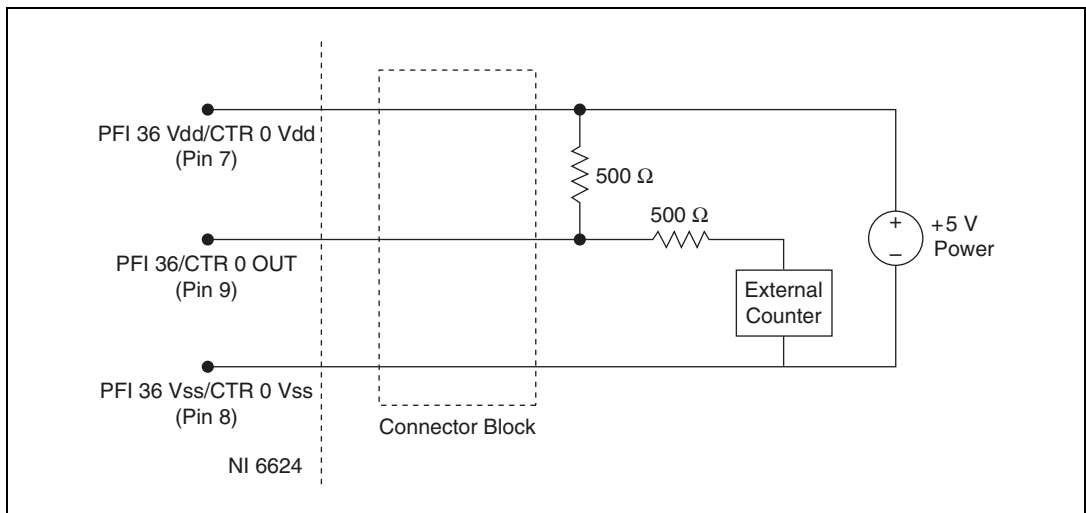

Figure 3. Calibration Connections
2. Wire the +5 V power source to the connector block. Refer to Figure 3 for the calibration connections.
3. Wire a 500 Ω resistor between the connector block terminals that are connected to the PFI 36 Vdd/CTR 0 Vdd pin (pin 7) and PFI 36/CTR 0 OUT pin (pin 9) on the NI 6624. Wire another 500 Ω resistor to the connector block terminal that is connected to the PFI 36/CTR 0 OUT pin (pin 9) on the NI 6624, as Figure 3 shows.